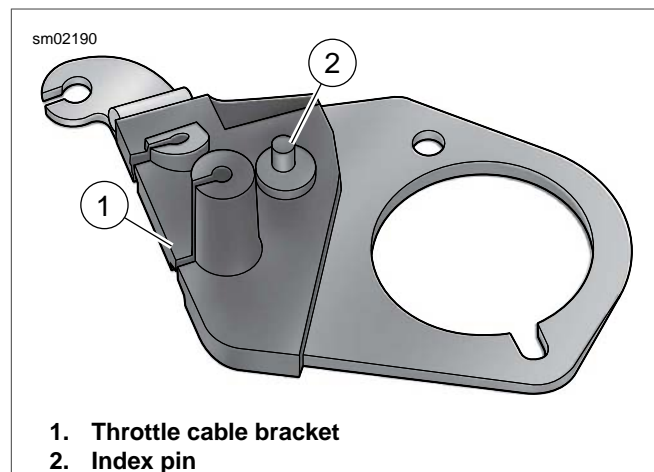

Figure 4-23. Throttle Cable Bracket
4. See Figure 4-23. Insert index pin (2) at bottom of throttle cable bracket (1) into hole in boss at top of induction module.